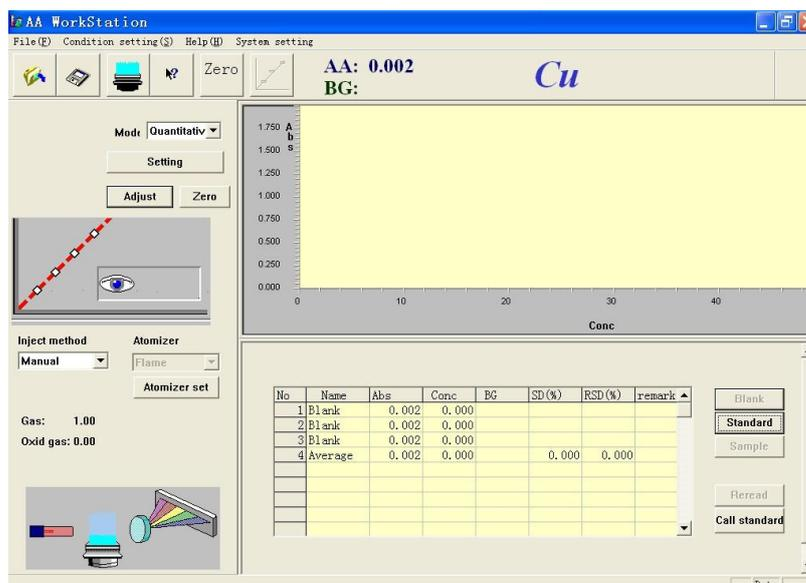

Figure 5-4
8. Press "OK" to close the dialog. Then the "Test sample" button is enabled. (See Figure 5-4)